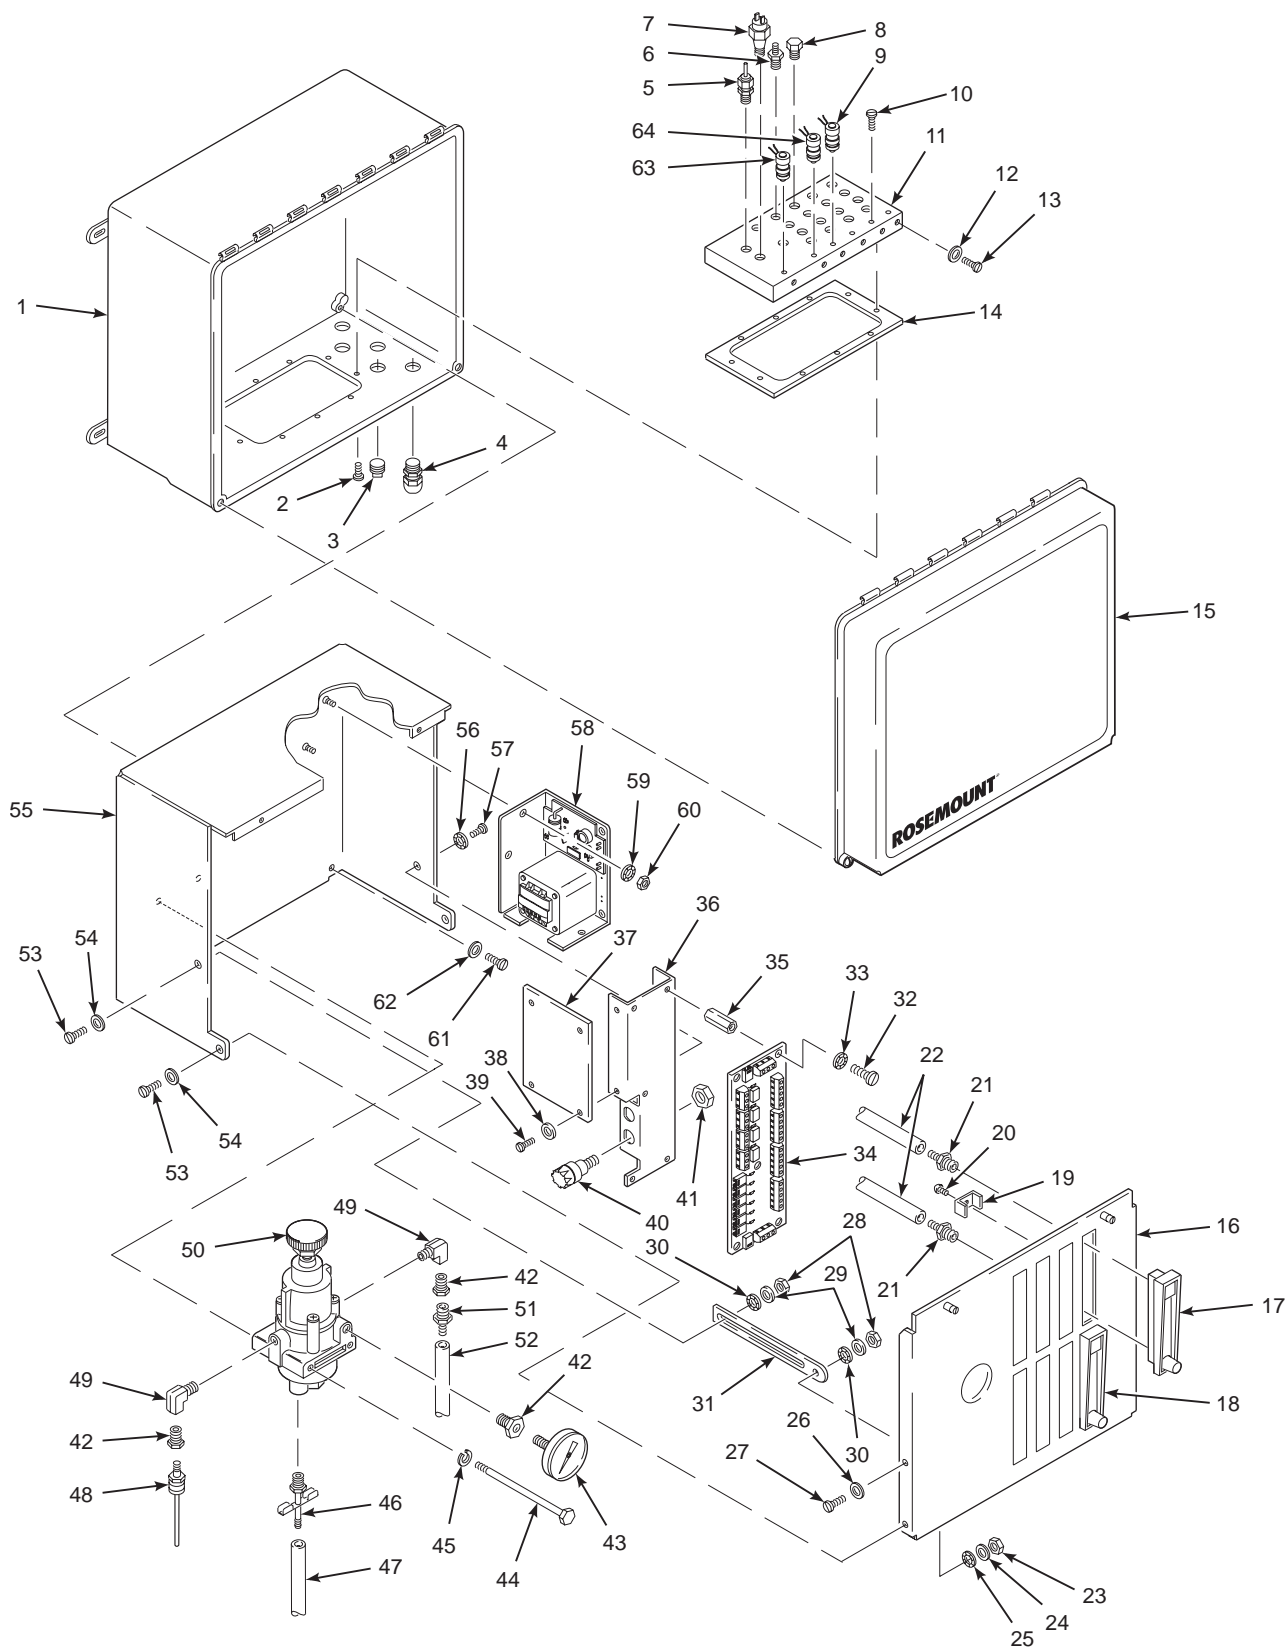

Figure 3-1. Multiprobe Test Gas Sequencer, Exploded View
- 3-2. FUSE REPLACEMENT.** Power supply (58, Figure 3-1) contains two identical fuses. Perform the following procedure to check or replace a fuse.
- b. Loosen two captive screws holding the MPS cover (15, Figure 3-1). Open the MPS cover.
- c. Loosen two captive screws holding the inner cover (16). Lower the inner cover.
- d. Disconnect the 24V connector from J11 on the termination board (34).
- e. Remove two screws (39) and washers (38) holding the terminal cover (37). Remove the terminal cover.
- f. Tag and remove wires from terminals 1 and 4 or 5 of the transformer in the power supply (58).
- g. Remove two nuts (60) and washers (59) from the screws holding the power supply (58). Remove the power supply.
- h. Mount the new power supply onto the screws with two nuts (60) and washers (59). Make sure the ground wires are connected to the upper mounting screw.
- j. Install the terminal cover (37) with two screws (38) and washers (39).
- k. Connect the 24V connector to J11 on the termination board (34).
- l. Close and secure the inner cover (16) with two captive screws. Close and secure the outer cover (15) with two captive screws.
LEGEND FOR FIGURE 3-1
- 3-4. SOLENOID VALVE REPLACEMENT.** An MPS 3000 will always have a HI GAS solenoid (63, Figure 3-1) and a LOW GAS solenoid (64) mounted to the manifold (11). Each probe will also have a solenoid valve (9) mounted on the manifold.
- d. Disconnect the HI GAS (J17), LOW GAS (J18), or Probe (J13-J16) plug from its receptacle on the termination board (34).
- f. With a spanner wrench or padded pliers, remove the remaining part of the solenoid from the manifold (11).
- i. Connect the plug to the proper receptacle on the termination board (34).
- j. Close and secure the inner cover (16) with two captive screws. Close and secure the outer cover (15) with two captive screws.
- a. **Pressure Adjustments.** Pressure regulator (50, Figure 3-1) is factory set to 138 kPa (20 psi). Should the pressure need to be changed or adjusted, use the knob on top of the pressure regulator.
- b. **Condensation Drain.** To drain excess moisture from the internal gas circuit of the MPS, periodically loosen drain valve (46) on the bottom of pressure regulator (50). The moisture will flow through vinyl tubing drain (47) on the bottom of pressure regulator (50) and exit the bottom of MPS enclosure (1).